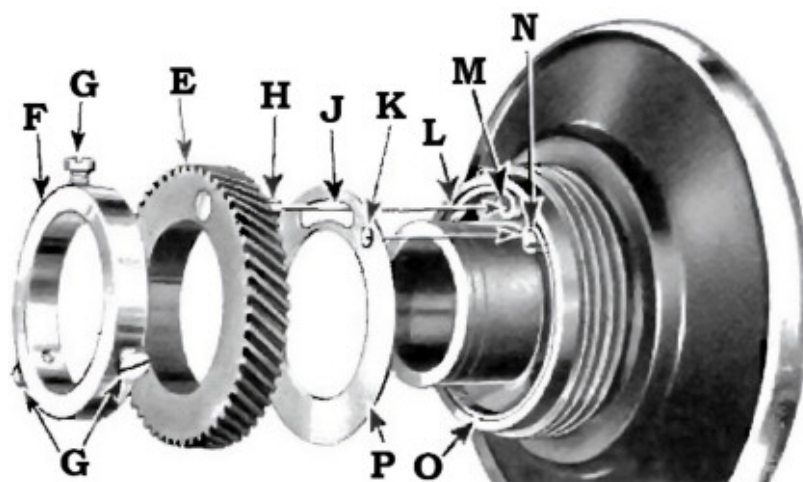

FIG. 19. BALANCE WHEEL DISASSEMBLED
Loosen the three set screws (G, Fig. 19) and remove balance wheel gear collar (F) from the balance wheel hub. Then lift off the textolite gear (E). Take off the spring retaining washer (P). The shock-absorbing spring (O) can then be removed from the recessed seat on the shoulder of the balance wheel hub. There are three pins in the recessed seat, then two outer pins being eccentric. The middle pin (N) is for the right hand loop of the spring (O). The duty of the two outer (eccentric) pins is to prevent the two ends of the spring (O) from coming into contact with each other and thus becoming noisy during the functioning of this shock-absorbing spring. Make sure that these three pins are in place in the spring seat.
When replacing these parts, first put the shock-absorbing spring in position, as shown by Fig. 19, with the right hand loop of the spring about the middle pin (N). Then place the spring retaining washer (P) so that the round pin hole (K) engages the pin (N) on which is placed the right hand loop of the shock-absorbing spring (O), as indicated by the unlettered arrow leading from pin-hole (K) to pin (N).
Replace the gear collar (F, Fig. 19) which retains the textolite gear (E) in place on the balance wheel hub. This collar (F) should be so placed against the textolite gear (E) as to prevent side play, but not to retard the free oscillating movement of the gear during the functioning of the shock-absorbing spring. The use of a .003" feeler gauge or a piece of ordinary note paper, between gear collar and textolite gear, will establish the proper position of collar (F) relative to textolite gear (E). When collar (F) is properly positioned, tighten the three set screws (G).